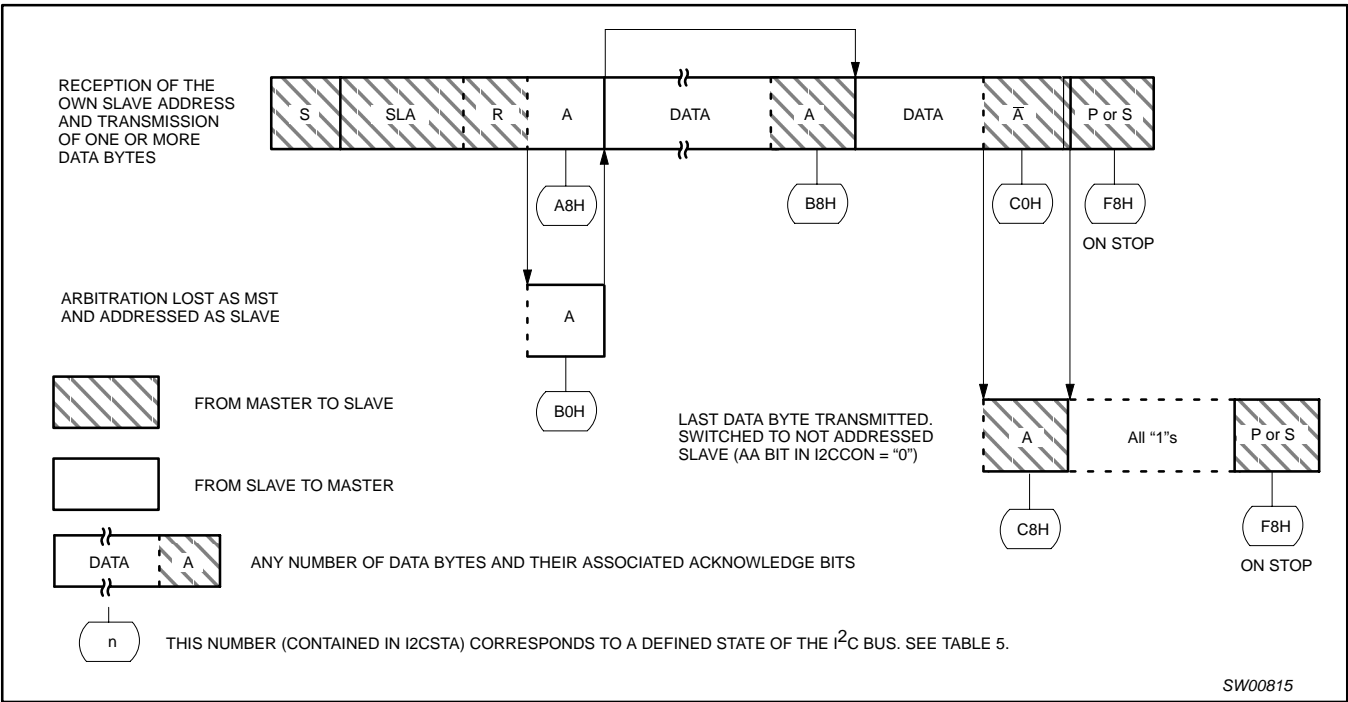

Figure 5. Format and states of the slave transmitter mode
When SIO is in the addressed slave transmitter mode, state C8H will be entered after the last serial is transmitted (see Figure 5). When SI is cleared, enters the not addressed slave receiver mode, and the SDA line remains at a HIGH level. In state C8H, the AA flag can be set again for future address recognition.
Slave Transmitter Mode: In the slave transmitter mode, a number of data bytes are transmitted to a master receiver (see Figure 5). Data transfer is initialized as in the slave receiver mode. When I2CADDR and I2CCON have been initialized, SIO waits until it is addressed by its own slave address followed by the data direction bit which must be "1" (R) for SIO to operate in the slave transmitter mode. After its own slave address and the R bit have been received, the serial interrupt flag (SI) is set and a valid status code can be read from I2CSTA. This status code is used to vector to an interrupt service routine, and the appropriate action to be taken for each of these status codes is detailed in Table 5. The slave transmitter mode may also be entered if arbitration is lost while SIO is in the master mode (see state B0H).